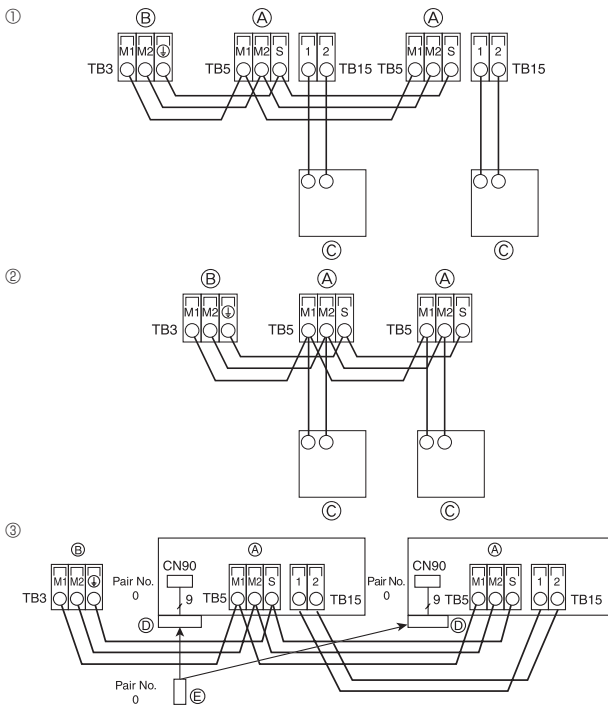

Fig. 5-3
5.4. Connecting remote controller, indoor and outdoor transmission cables (Fig. 5-3)
① MA Remote controller
② M-NET Remote controller
③ Wireless remote controller (When installing wireless signal receiver)